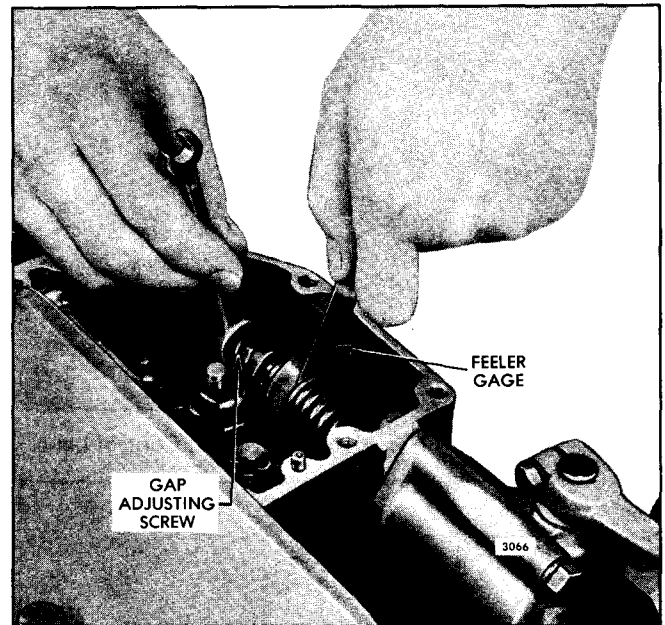

Fig. 2 – Adjusting Governor Gap
5. Insert a .006" feeler gage between the spring plunger and the plunger guide as shown in Fig. 2. If required, loosen the lock nut and turn the adjusting screw in or out until a slight drag is noted on the feeler gage.